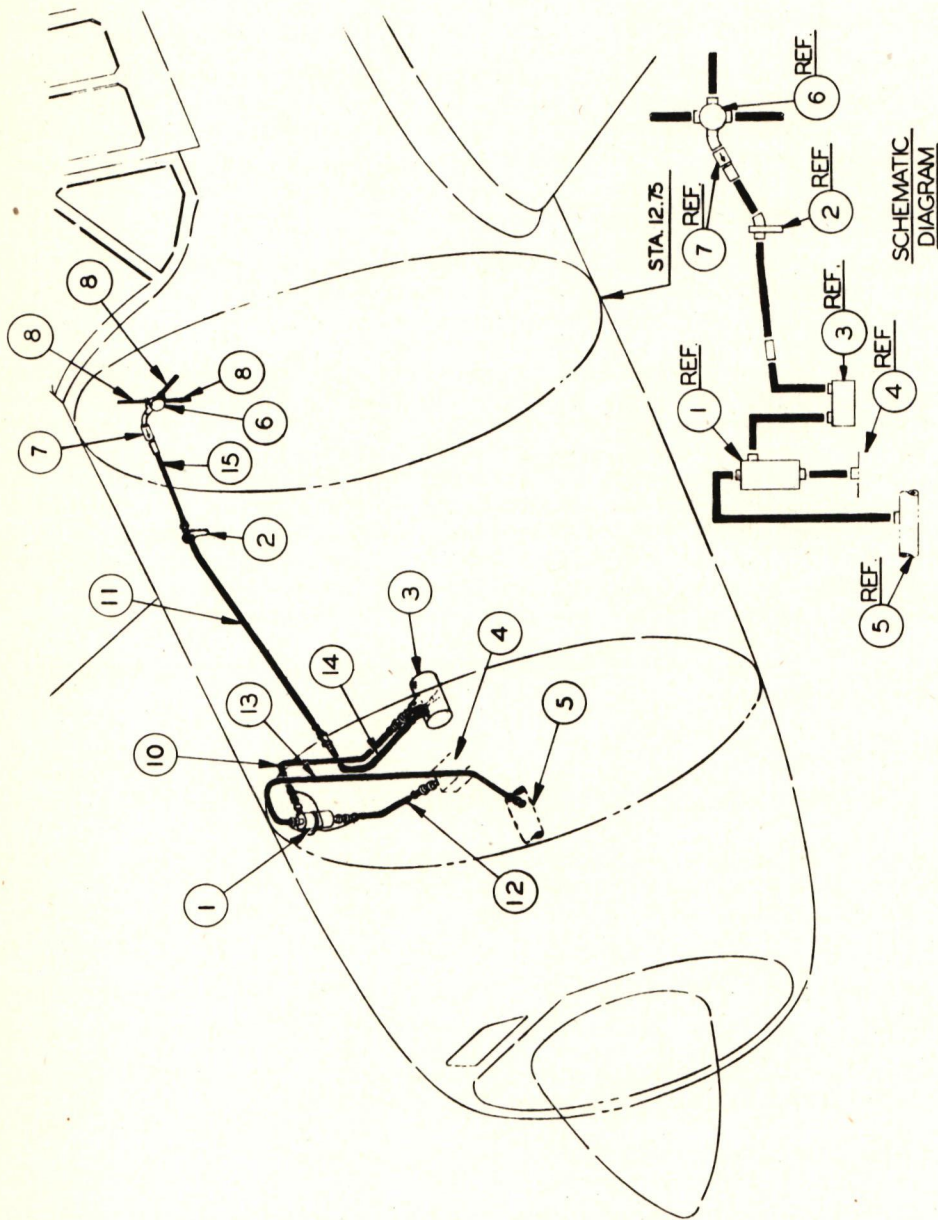

Figure 4-X - Vacuum System
18. Vacuum System (Refer to fig. 4-X).